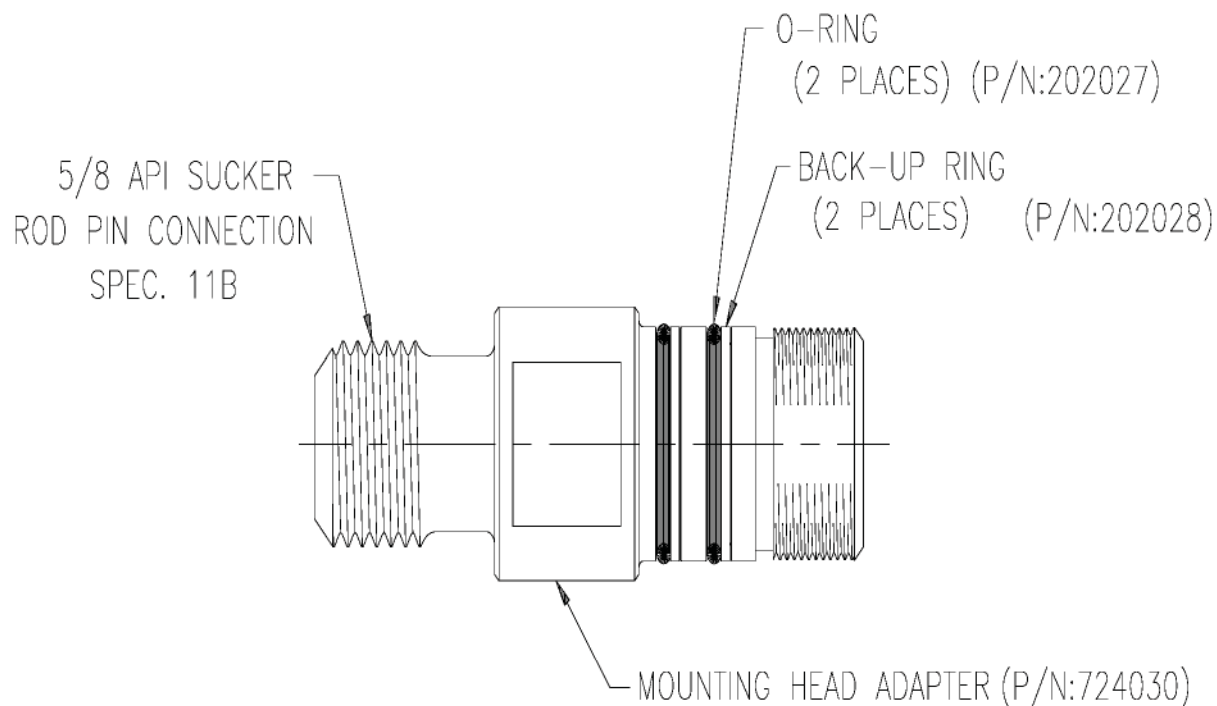
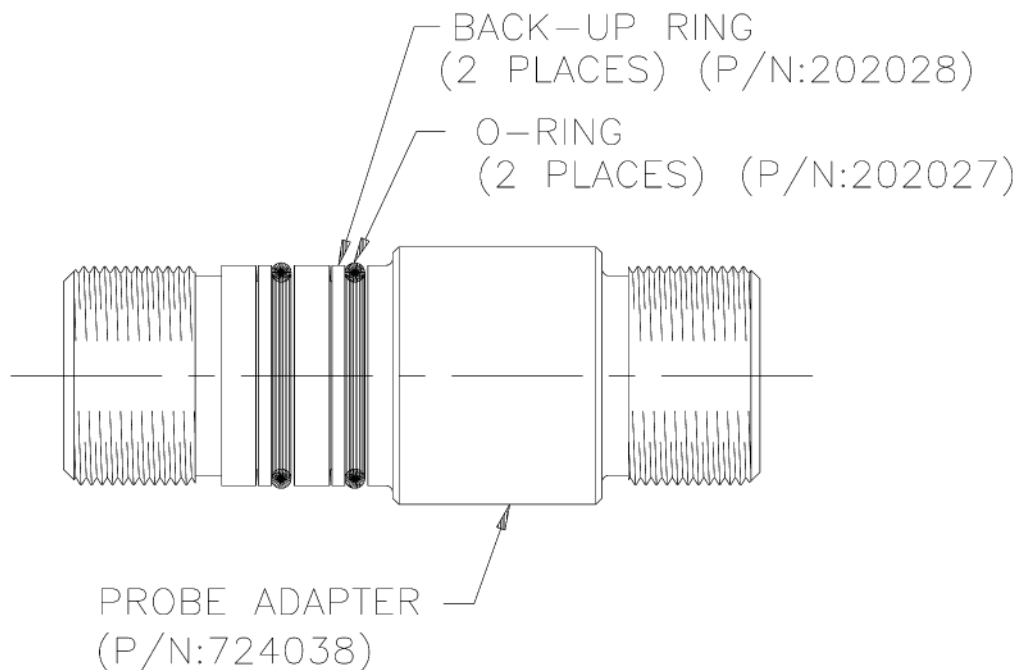

Figure 4.2 Mounting Head Adapter
Figure 4.3 Probe Adapter O-Ring and Back-Up Ring Placement
1. On the Mounting Head Adapter, there are two grooves between the fine threaded end and the wrench flats. A new O-ring and a new Back-up Ring must be placed in each groove before each Downhole run. The Back-up Ring in each groove must be positioned nearest the threads, as shown in Figure 4.2.
WARNING! Never use O-Rings or Back-up Rings for more than one Downhole run to prevent leakage and damage to the DHT internals. Make sure that O-Rings and Back-up rings are positioned as shown in FIGURE 4.2 for the Mounting Head Adapter and FIGURE 4.3 for the Probe Adapter.
2. In the Probe Adapter, there are two grooves between one threaded end and the wrench flats. A new O-ring and a new Back-up Ring must be placed in each groove before each Downhole run. The Back-up Ring in each groove must be positioned nearest the threads, as shown in Figure 4.3.